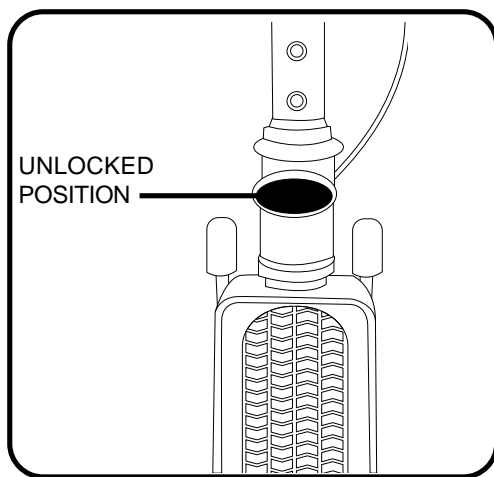
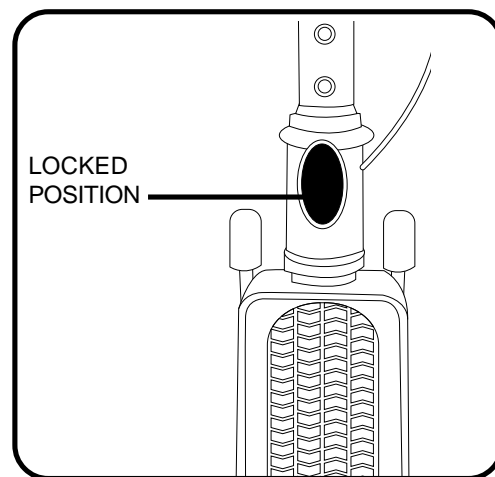

Figure 12. Tiller Lock Knob (Unlocked)
Figure 12A. Tiller Lock Knob (Locked)
1. From the unlocked position (see figure 12), lock the front wheel by pushing the tiller lock knob in and turning it clockwise 90°. See figure 12A.
WARNING! Before getting onto your scooter, always check that the tiller lock knob is in the unlocked position. See figure 12. Attempting to ride your scooter with the tiller lock knob in the locked position can result in personal injury.
9. Unlock the front wheel by turning the tiller lock knob 90° counterclockwise. **See figure 12.**